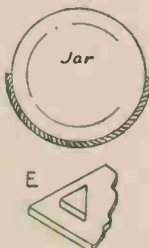

Fig. 3—Shaping the curve
It is advisable to warm the jar first, in case the hot Perspex cracks it. Get a friend to hold the jar bottom upwards on the table, then press the Perspex round it, as in Fig. 3. Before
As Perspex is rather expensive, an economy in material can be effected here by cutting four angular pieces of the Perspex to the shape, C. Cement one at each corner of the lid, underneath, as at (E). Fig. 3, in place of the smaller rectangle of the lid that is suggested above, to make the rim. The pieces can be quite small, say  $\frac{1}{2}$  in. each way, and will act efficiently, but they must be accurately positioned for the lid to fit correctly on.